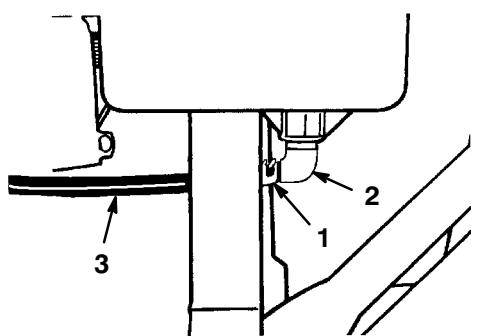

Figure 5
4. Remove the red cap from the end of the fuel line and from the end of the elbow fitting on the fuel tank (Fig. 5).
5. Slide the end of the fuel line onto the elbow fitting (Fig. 5).
6. Secure the fuel line in place with the fuel line clamp (Fig. 5).